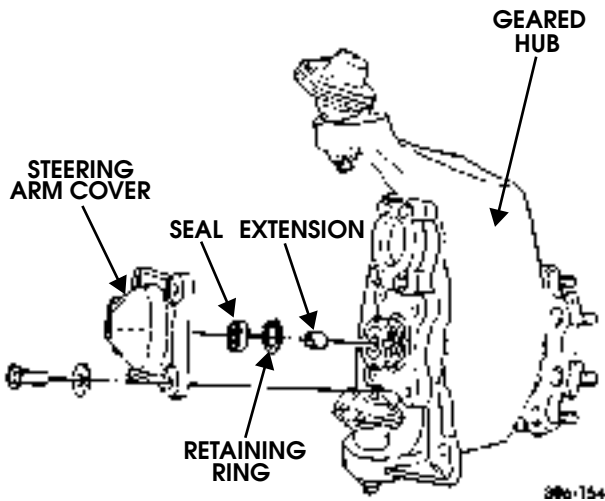

Figure 6-79: Spindle Extension and Seal
2. Remove four bolts, washers, and steering arm cover from geared hub (Figure 6-79).
1. Apply sealant to seal and install seal in steering arm cover (Figure 6-79).